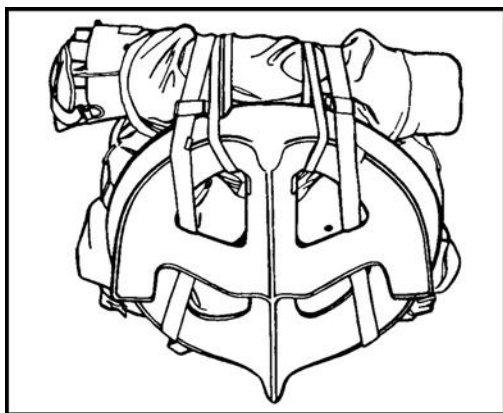
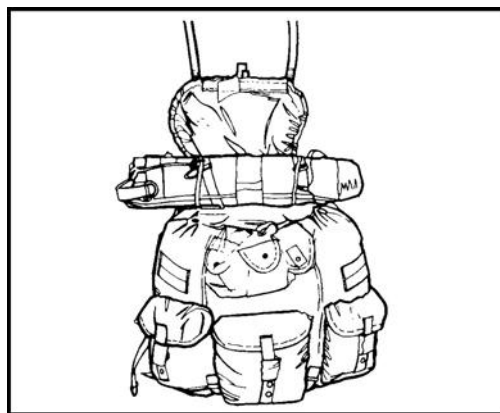
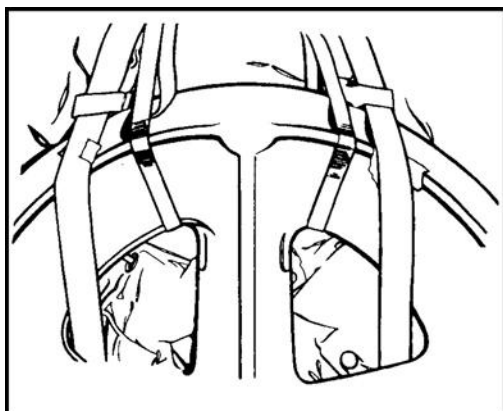
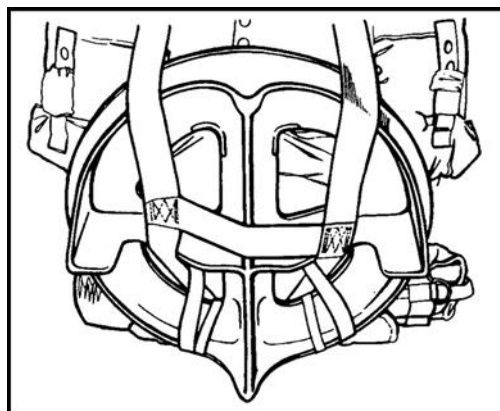

Figure 12-24. Aiming posts packed and secure.
Figure 12-25. Large baseplate secured to frame.
Figure 12-26. Pack adjusting straps routed through baseplate.
Figure 12-27. H-harness secured to pack and baseplate.
c. **Ammunition Bearer.** Place the aiming posts under the top flap of the pack and secure with 1/4-inch cotton webbing to the top of the frame (Figure 12-24). Place the large baseplate over the outer accessory pouches and secure to the top of the frame with 1/2-inch tubular nylon webbing (Figure 12-25). Route the free-running ends of the pack adjusting straps through the baseplate (over, under, and over) and secure (Figure 12-26). Secure the H-harness to the pack and baseplate, ensuring that the equipment retainer straps are routed under the baseplate (top of the ALICE pack) (Figure 12-27) and over the baseplate (bottom of the ALICE pack).